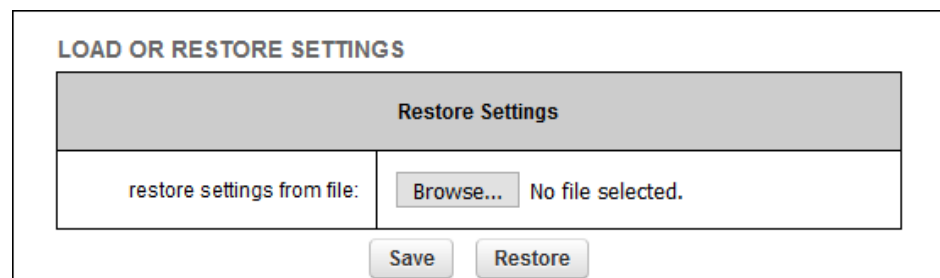

Figure 61. Configurator GUI (LOAD OR RESTORE SETTINGS dialog)
- The **LOAD OR RESTORE SETTINGS** dialog will be shown (Figure 61 \(page 147\)).